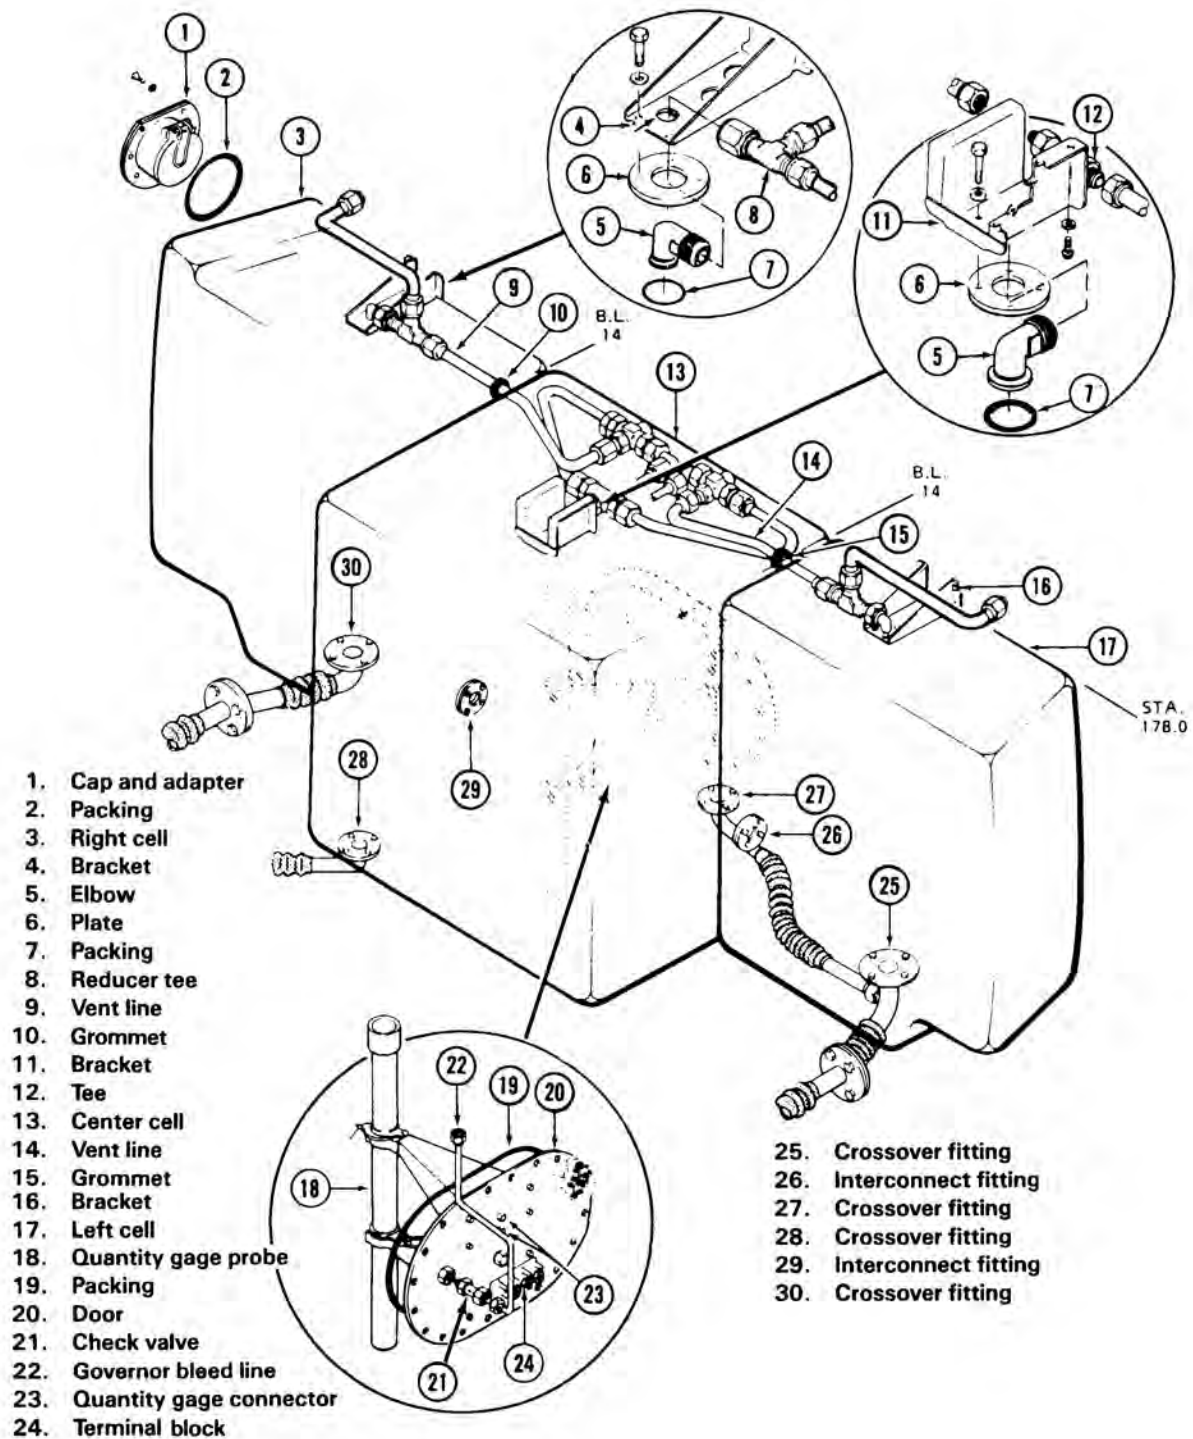

Figure 28-5. Aft fuel cell
28.10.1.2.2 Remove deck panel above left cell (17, Figure 28-5).
28.10.4.2.4 Align bottom ports of cells to mounting points in floors of cavities, using work-aids as required. With packings in place, attach crossover fitting (25, Figure 28-5) with four bolts
28.10.4.3.4 Align bottom ports of cells to mounting points in floors of cavities, using work-aids as required. With packings in place, attach each crossover fitting (30, Figure 28-5) with four bolts and thin aluminum washers. Torque bolts 40 to 50 in-lbs. (4.52 to 5.65 Nm).
28.11.1.3 Disconnect two governor bleed lines (22, Figure 28-5) from check valves (21) on door (20) and from fittings at underside of engine deck. Cap fittings.